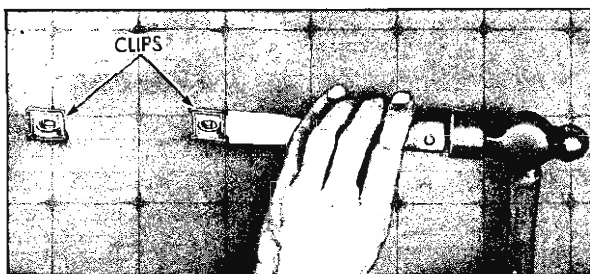

Fig. 6-7 Removing Bath-Tub Type Clip
- Bath-tub type clips, of metal construction, can be removed satisfactorily by cutting them part way through or all of the way through from the outer panel with a sharp, flat-bladed tool as shown in Fig. 6-7. In